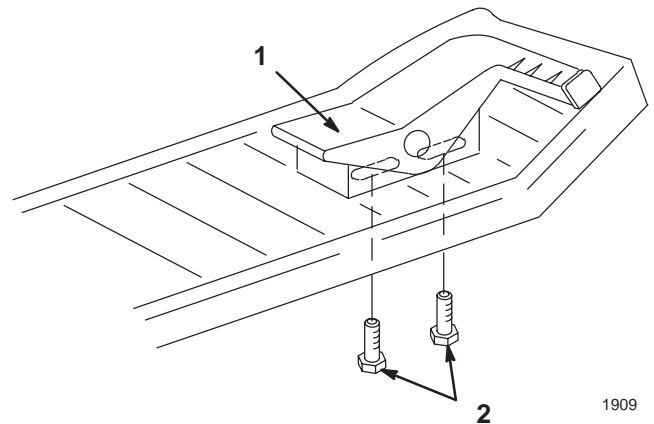

Figure 9
1. Loosen the screws below the right footrest. Slide the pedal forward for faster reverse speed or backward for faster forward speed (Fig. 9).